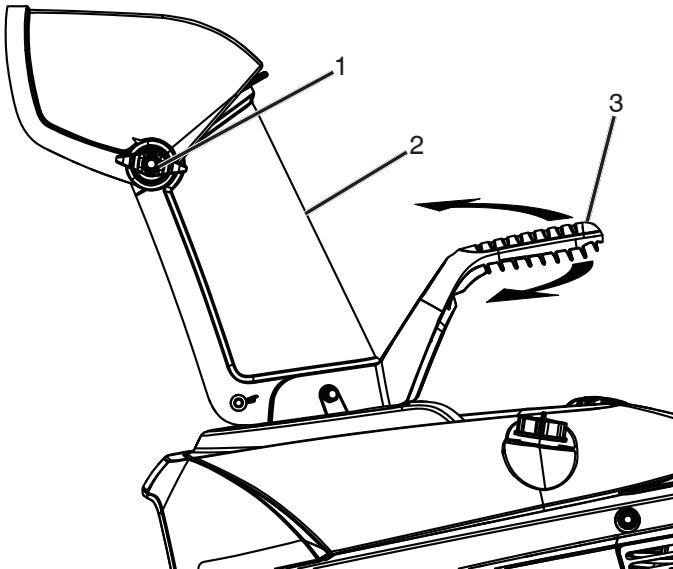

Figure 17
1. To adjust the discharge chute, move deflector chute handle left or right to desired position (Figure 17).
2. To raise or lower the angle of the chute deflector, loosen the chute deflector knob on the chute deflector and move the chute deflector up or down (Figure 17).